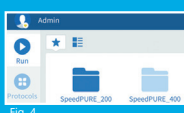

Fig. 5
- Remove Deep Well Plates from instrument and collect eluates from columns 6 and 12 (Fig. 5)